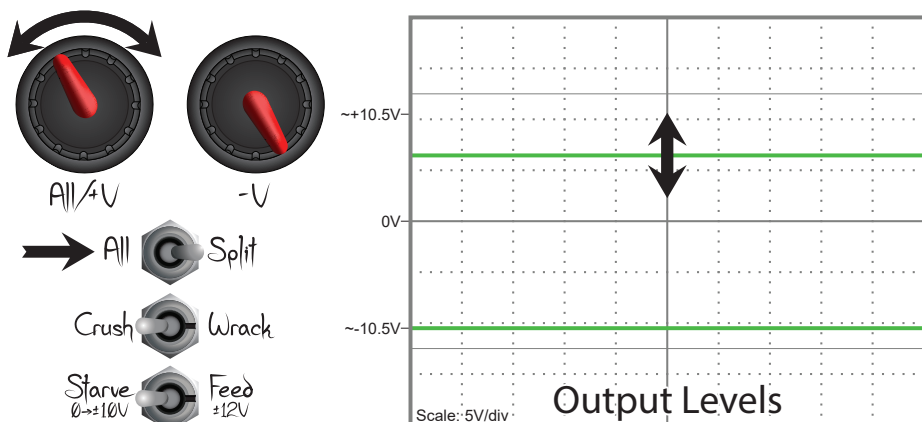

fig. 4: All/+V with All/Split toggle in Split.
-V: With the **All/Split** toggle in *Split*, this knob controls the -V output. When the toggle is set to *All*, it has no effect on anything. Clockwise (CW) rotation increases voltage, counter clockwise (CCW) decreases voltage. (figs. 4, 5)